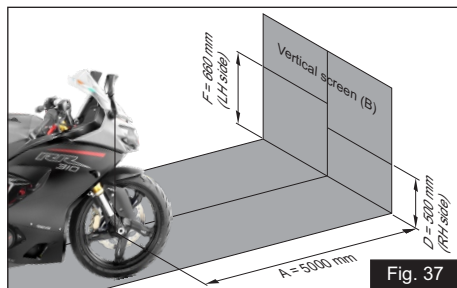

Fig. 37
- ◆ Place the motorcycle upright in a uniform flat surface while ensuring the head lamp center (A) is 5 meter away from a vertical wall or screen (B). (ref. Fig. 37)
- ◆ Adjust the RH side projector lamp adjuster (C) clockwise (Downward) or in anti-clockwise (Upward) and match the low beam cut-off line to the marking line (D) (500 mm) on a vertical wall or screen. (ref. Fig. 37 & 38)
- ♦ Adjust the LH side projector lamp adjuster (E) clockwise (Downward) or in anti-clockwise (Upward) and match the low beam cut-off line to the marking line (F) (660 mm) on a vertical wall or screen. (ref.Fig.37 &38)